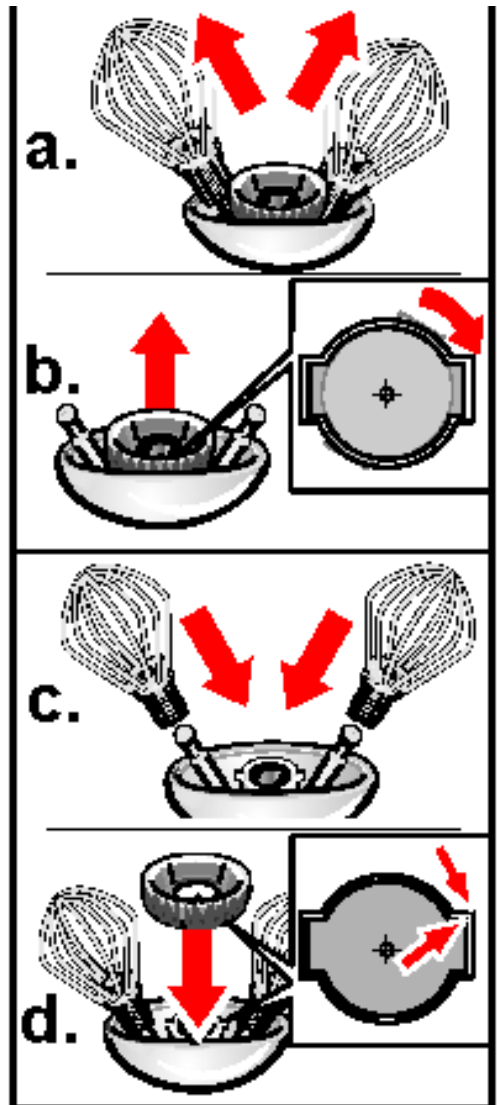

Figure 7.
- > The beating whisk assembly should be disassembled, see figure 7